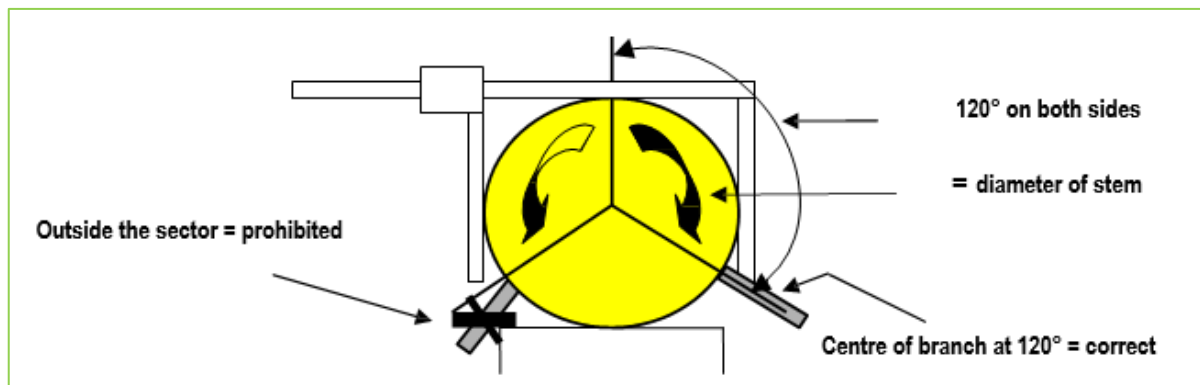

Figure 39: The area to be limbed left and right 120° (corresponds to the stem diameter)
- Within the limbing sector, 30 branches with a total diameter of 900 mm are placed on either side of the stem midline at approximately 120° (see figure 39).